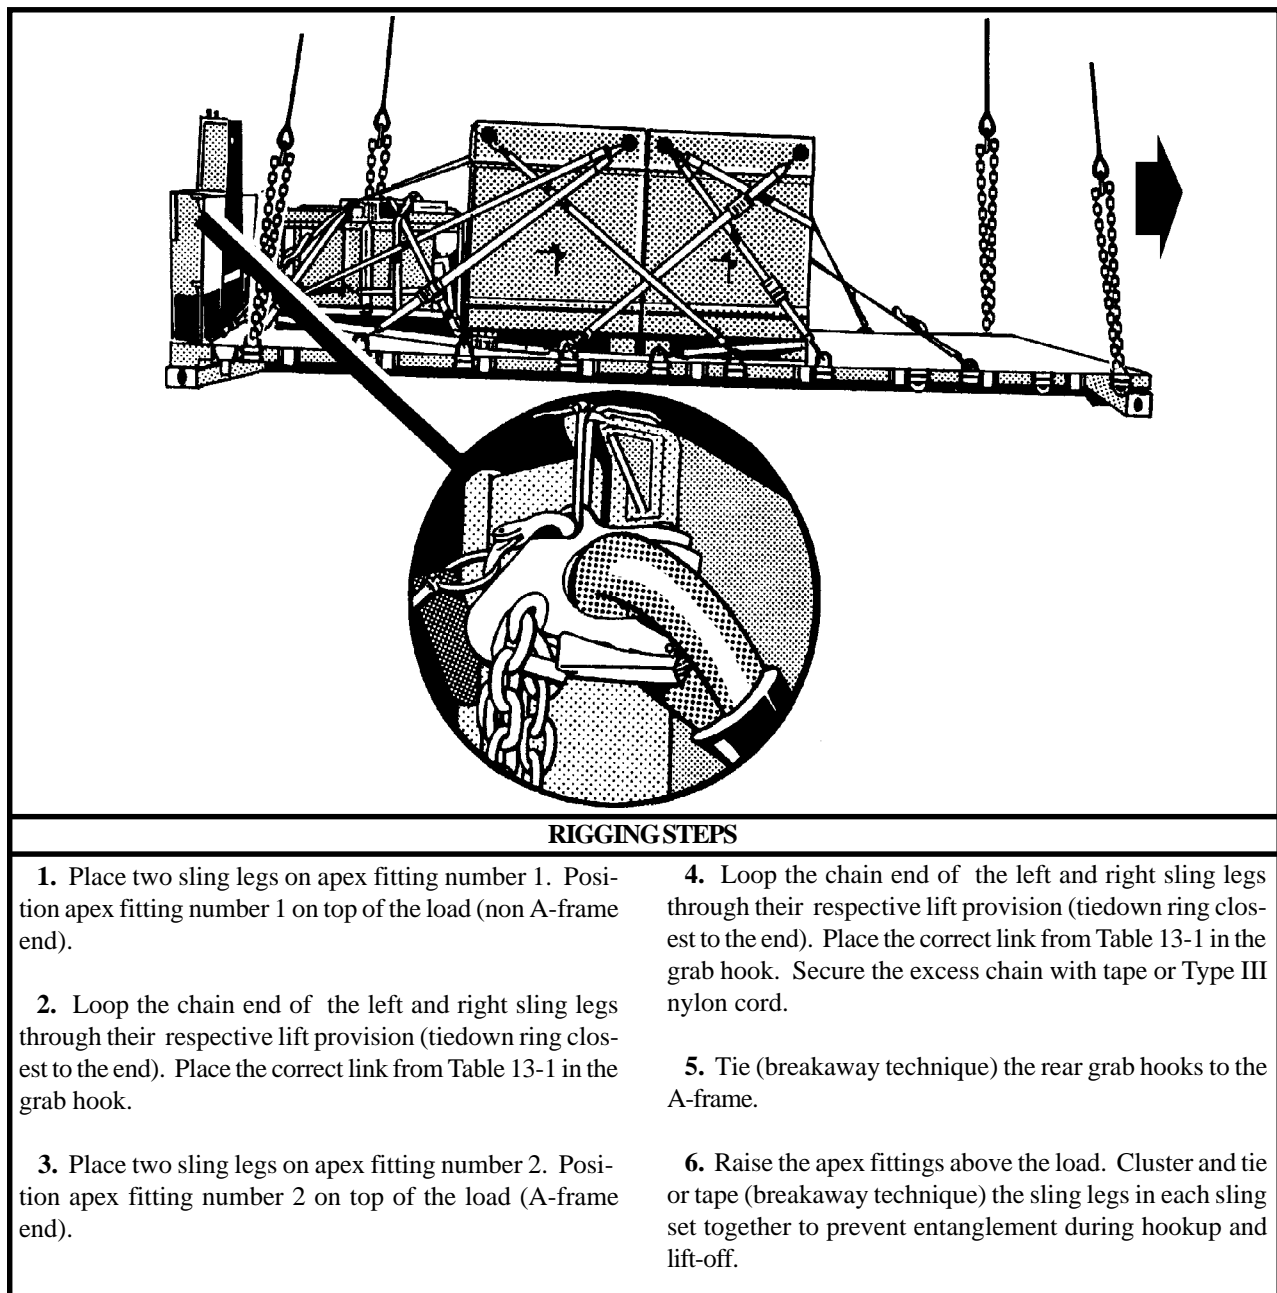

Figure 13-1. Palletized Loading System (PLS), M1077 Flatrack, Loaded
(2) **Rigging.** Rig the load according to the steps in Figure 13-1.